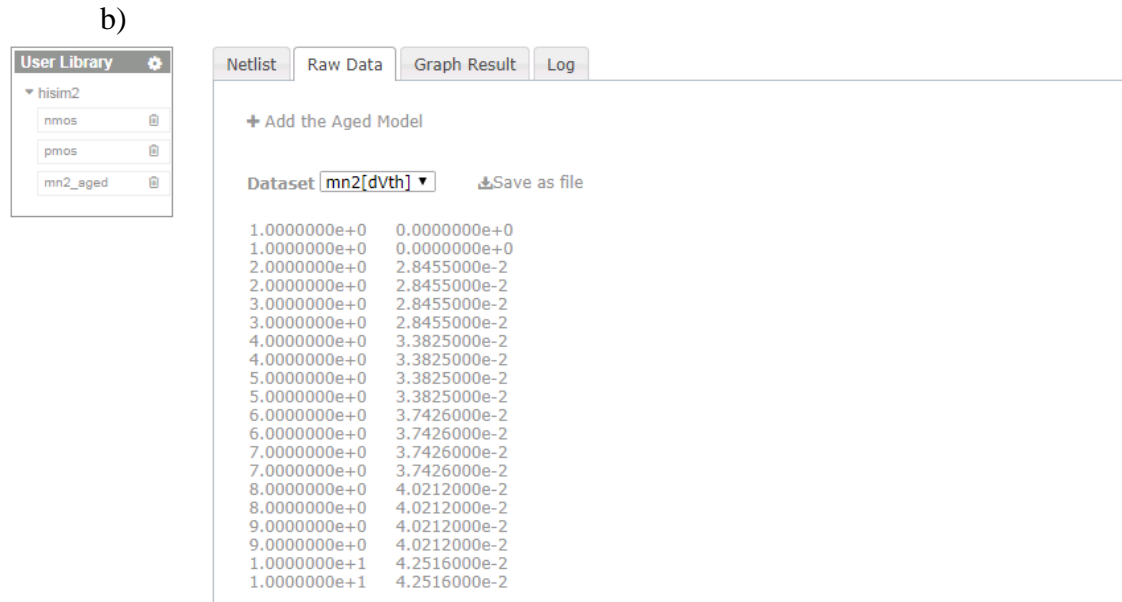

Fig. 1.2: The Raw Data output. Different variables can be selected from the Dataset drop down menu. (a) Output circuit signal, (b) degraded parameter.
When simulation is completed, the numeric data is listed in the Raw Data page as shown in Fig. 1.2. In Fig. 1.2 (a), the node voltage 'V(5) against time' is displayed where the first column is the time in unit of second. In Fig. 1.2 (b), the degraded threshold voltage of transistor 'mn2' is displayed where the first column is the time in unit of year.